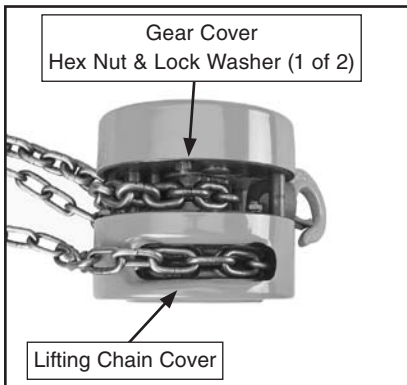

Figure 2. Gear cover fasteners.
1. Lay the hoist housing on a flat working surface with the lifting chain cover facing down (see **Figure 2**).